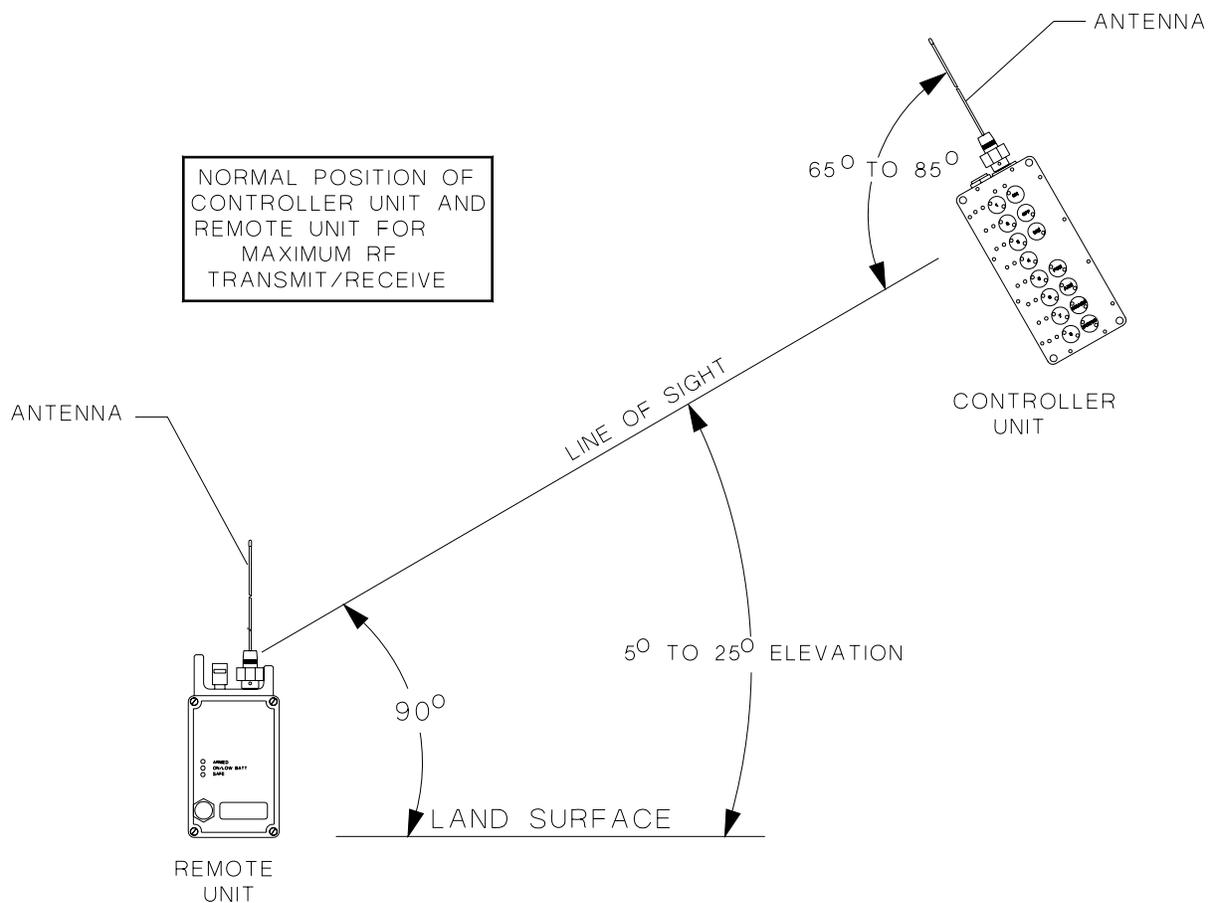
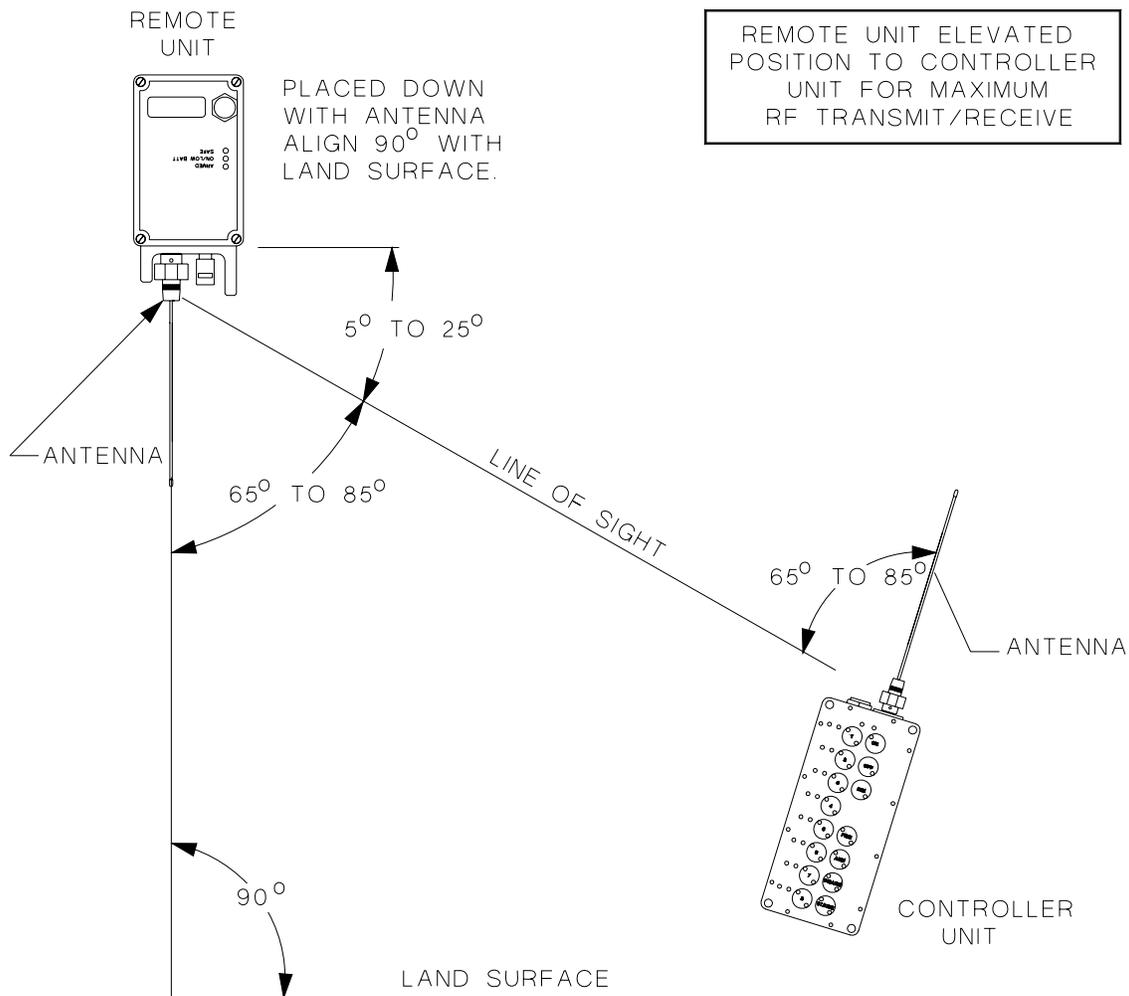
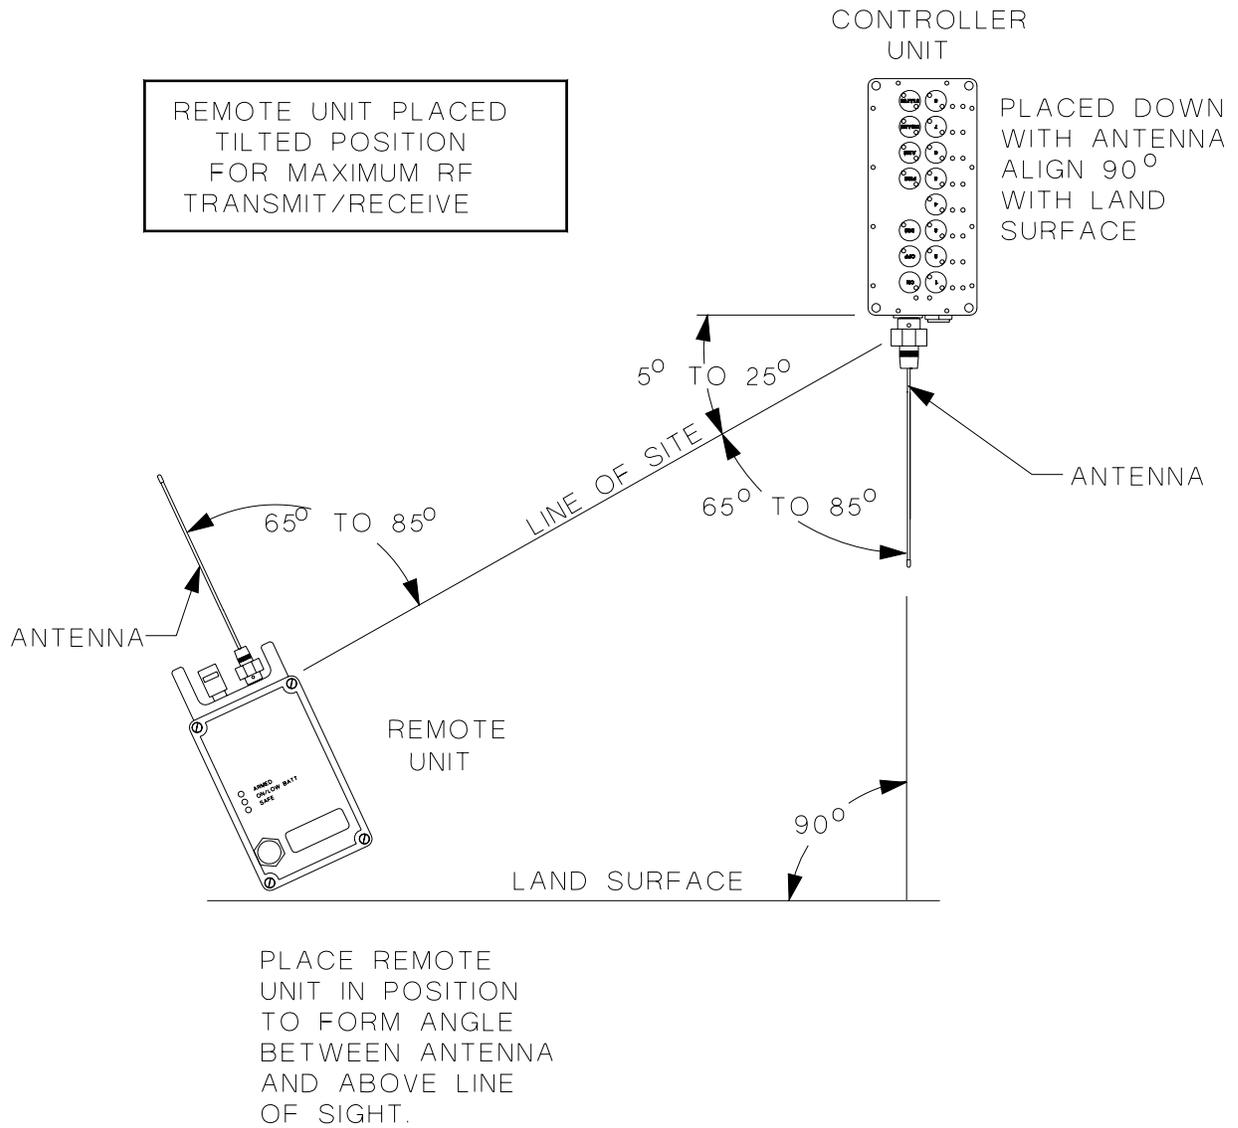
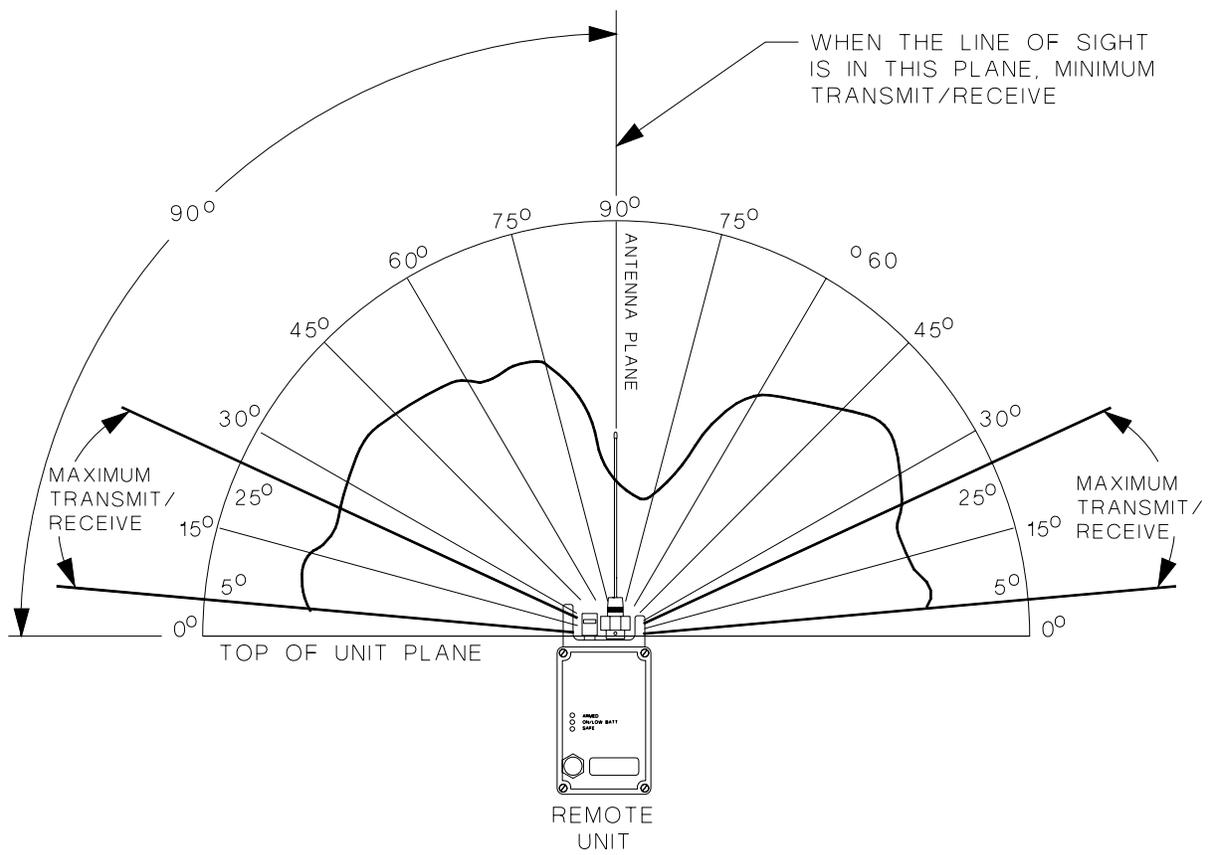

Figure 8-1 Unit Normal Transmission Location.
Figure 8-2 Remote Unit Elevated.
Figure 8-3 Controller Unit Elevated.
Figure 8-4 Antenna Radiation Pattern.
8.1.1. When power lines are in the area, the radio transmission distance is reduced. The system can operate at the following distance, when the Controller Unit is elevated to a maximum transmission location angle to the Remote Unit location (see Figure 8-1).
8.1.2. If the Controller Unit and Remote Unit must be placed in a position other than location in Figure 8-1, use Figure 8-2 or Figure 8-3. The minimum transmission will occur when the Controller Unit antenna and the Remote Unit antenna are placed in the line of site. The maximum transmission occurs when the line of site lays in a path of 5 to 25 degrees above unit top plane perpendicular to the antenna. Both the Controller Unit antenna and the Remote Unit antenna have the same radiant energy pattern as shown in Figure 8-4.